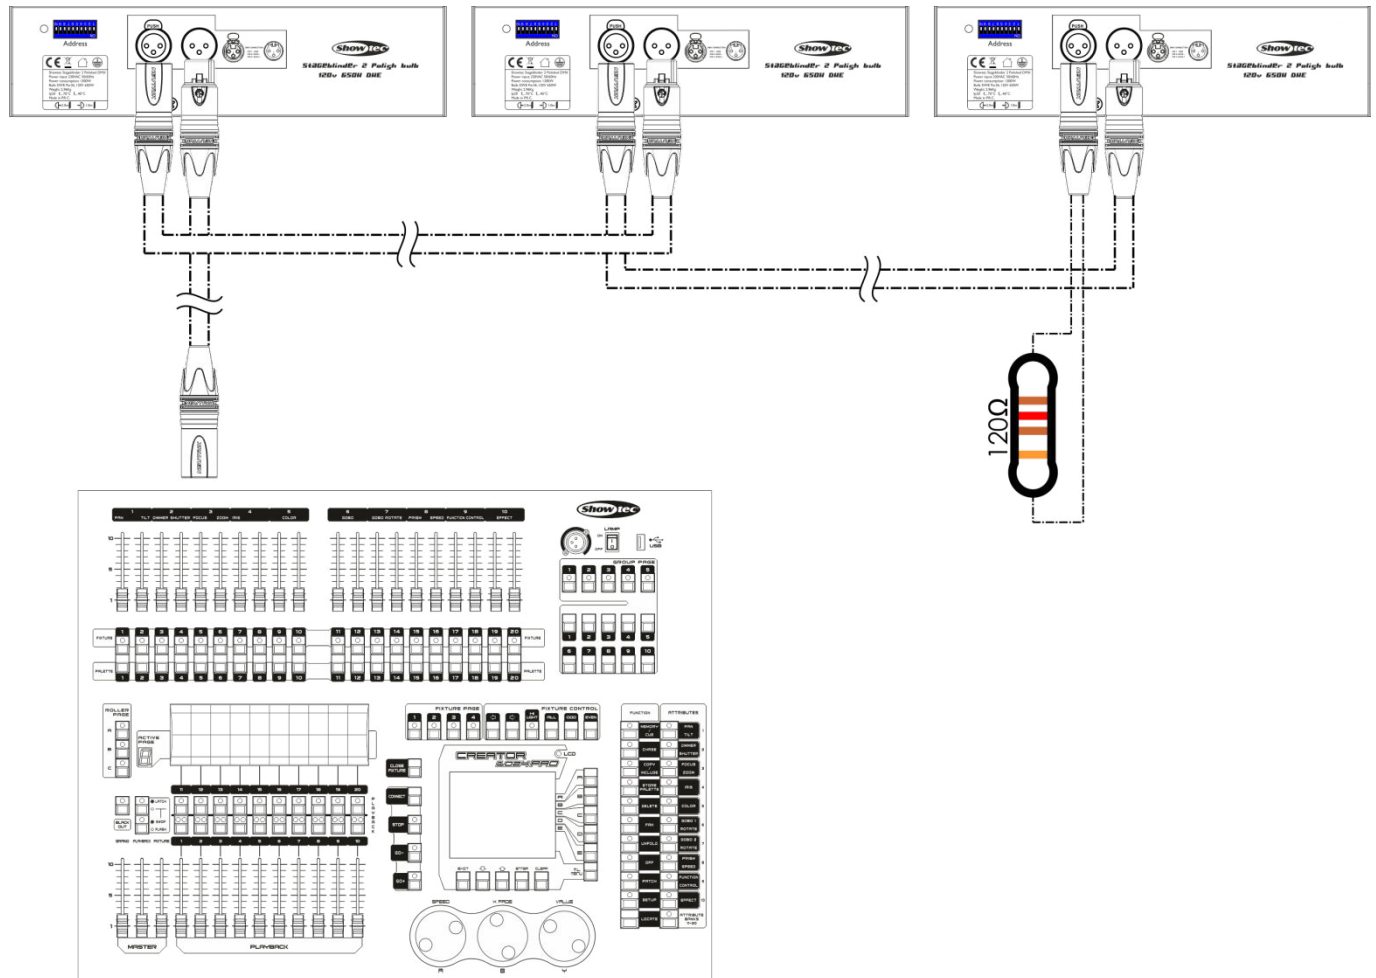

Fig. 04
- 01) Link the units as shown in fig. 04. Connect the first unit's DMX "out" socket with the second unit's "in" socket, using a DMX-signal cable. Repeat this process to link the second, third, and fourth units.